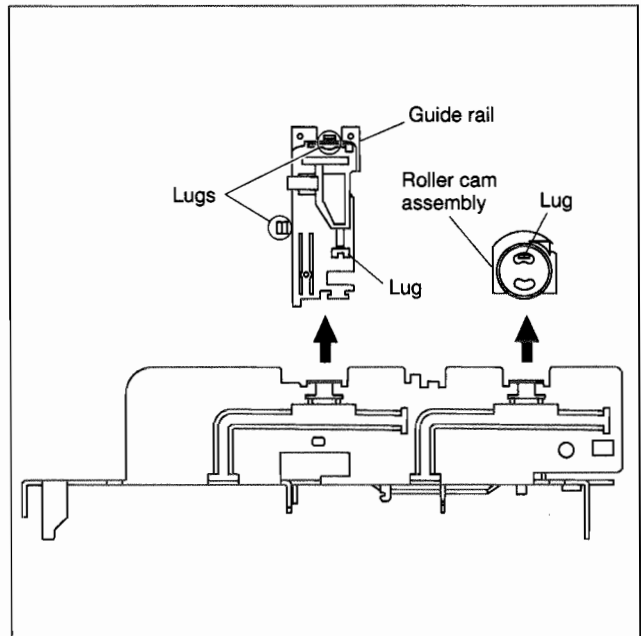

Fig. 2-2-2
(1) Remove the guide rail and roller cam assembly. (See Fig.2-2-2.)